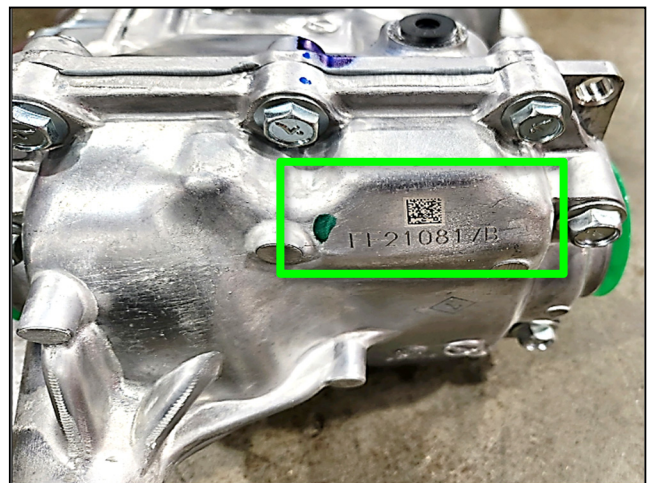

Figure 4
- The manufacture date is located in the casting stamp located on the rear passenger (RH) side of the Final Drive Unit.
- For example, Figure 4 has a casting stamp of FF210817B. The manufacture date is 08-17-2021.